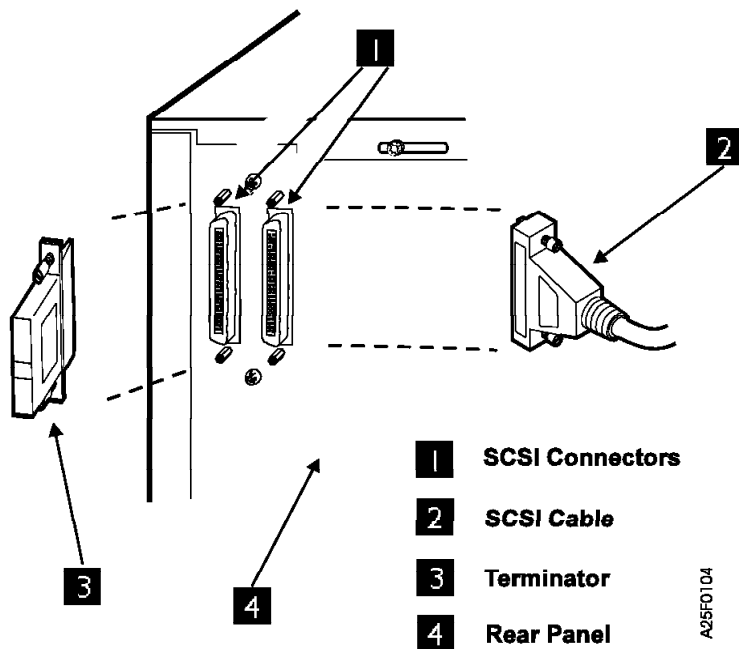

Figure 15. SCSI Rear Panel—F01
- a. If the drive is to be used in a standalone configuration, the terminator will be installed in the second SCSI connector as shown in Figure 15 on page 23.
The 3490E Model Fxx is configured with a differential fast/wide SCSI 2 interface. There are two daisy chained SCSI cable connectors at the rear of the drive. Figure 15 on page 23 shows the SCSI cable, connectors and bus terminator used on the tape drive. In order to connect the tape drive to a host computer system, the host system must have a SCSI bus and the appropriate driver software.